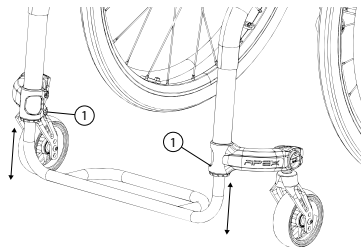

Fig. 19c
- Loosen bottom 5mm Hex screws (1) on the right and left caster mount clamps (Fig 19C)
- Tighten the screws (1) firmly.